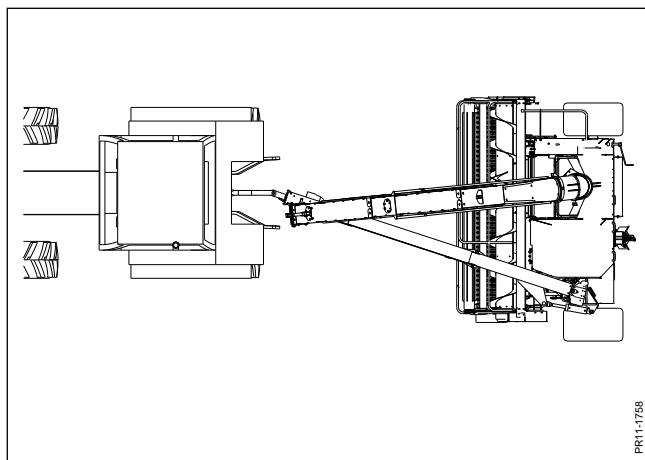

Fig. 6-1
**Fig. 6-1** In the transport position, the machine must be placed behind the tractor so that it follows immediately behind the tractor. Standard and parallel chutes must point backwards. Folding chutes must be folded down to rest on the stand on the drawbar. The control box must be turned off to prevent the accidental operation of the machine.